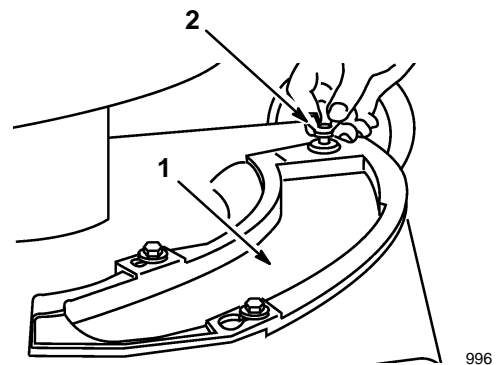

Figure 32
2. Remove the wing screw that fastens the cover plate to the housing (Fig. 32).
2. Remove the wing screw that fastens the mulch plate to the housing (Fig. 32).